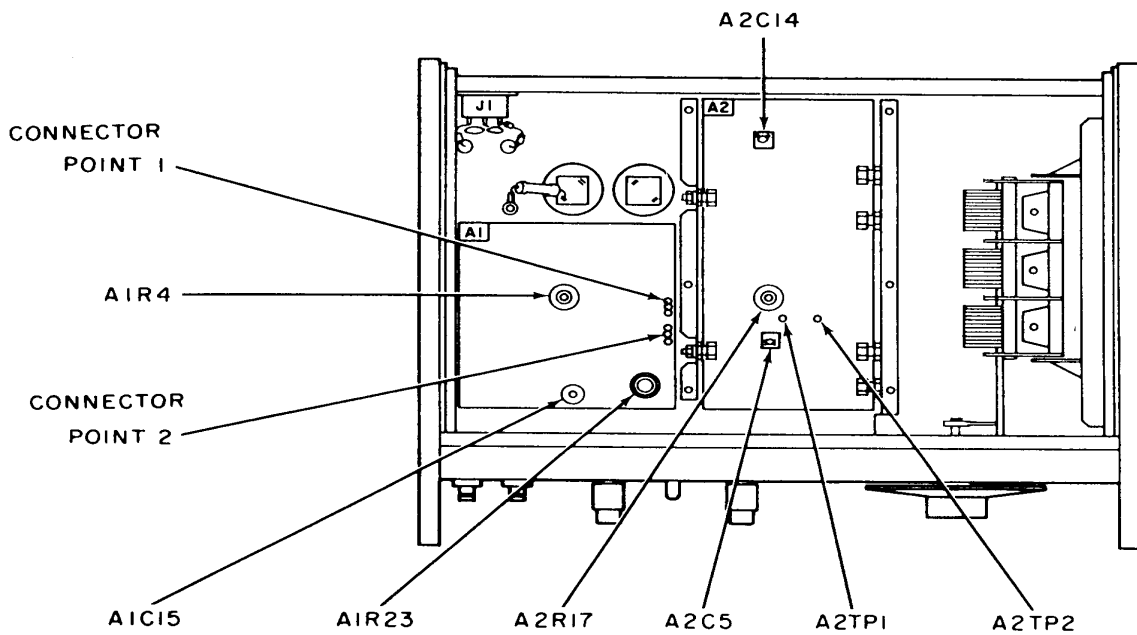
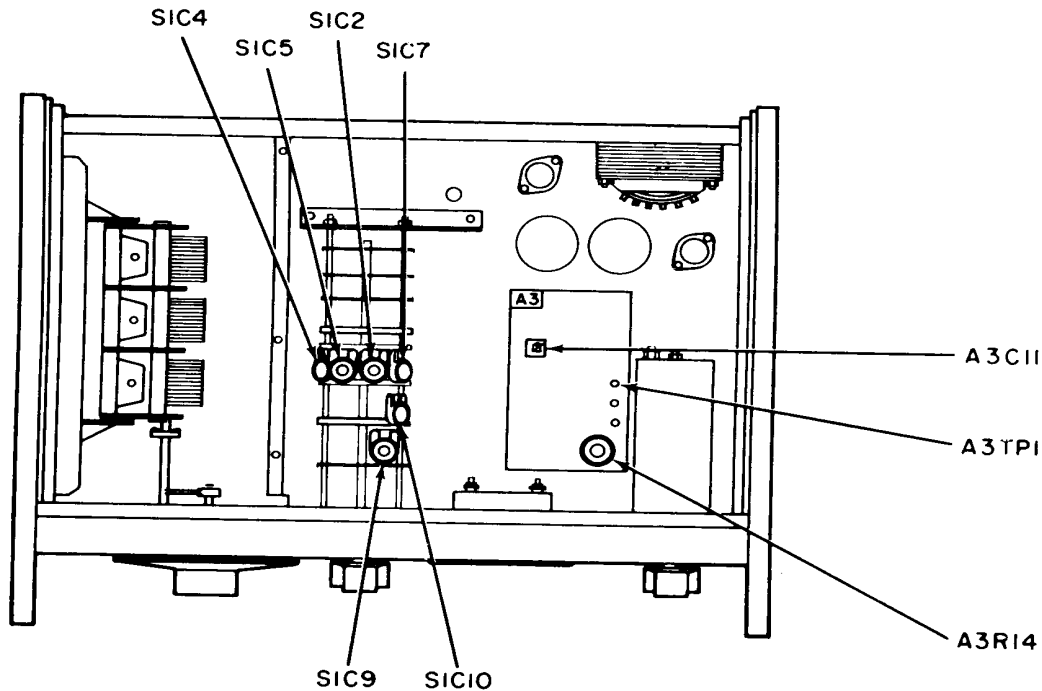

Figure 1. Test instrument - bottom view.
Figure 2. Test instrument - top view.
- (1) Remove TI bottom cover and oscillator shield.
- (2) Connect multimeter with a 1 k Ω resistor in series between A2TP1 (fig. 1) and chassis ground.
- (3) Connect audio analyzer to TI using a 50 Ω feed-through termination.
- (4) Position controls as listed in (fig. 2) below.
- (5) Adjust **AMPLITUDE** controls for a 3.0 V indication on TI meter. Multimeter will indicate between 100 and 120 mV ac.
- (6) Adjust A2R17 (fig. 1) for minimum distortion (R).
- (7) Connect multimeter between A2TP2 (fig. 1) and chassis ground.
- (8) Connect frequency counter to TI, using a 50 Ω feed-through termination.
- (9) Turn **FREQUENCY** dial to 10.
- (10) Adjust S1C2 and S1C7 (fig. 2) alternately until multimeter indicates -350 mV and frequency counter indicates 10.0 kHz (R).
(17) Adjust S1C5 (fig. 2) and A2C5 (fig. 1) alternately until frequency counter indicates 10.0 MHz and multimeter indicates -370 mV (R).
If TI will not oscillate, adjust S1C10 (fig. 2) slightly.
(20) Turn **FREQUENCY** dial to 5.
(21) Adjust S1C10 (fig. 2) until frequency counter indicates 5.0 MHz and multimeter indicates -310 MHz (R).
(22) Repeat (16) through (21) above until no further adjustment is required.
(23) Set **FREQUENCY RANGE** switch to **X100K** and turn **FREQUENCY** dial to **10**.
(24) Adjust S1C4 and S1C9 (fig. 2) until frequency counter indicates 1.00 MHz and multimeter indicates -275 mV (R).
- (1) Adjust **AMPLITUDE** controls for a 3.00 V indication on multimeter.
- (2) Adjust A1R23 (fig. 1) for a 3 V indication on TI meter (R).
- (3) Adjust **OUTPUT AMPLITUDE** and **VERNIER** controls for a 3.075 V indication on multimeter.
- (4) Adjust A3R14 (fig. 2) for a +2.5 indication on TI meter percent scale (R).
- (1) Adjust A2C14 (fig. 1) fm best overall flatness between 1 and 10 MHz.
- (2) Set **FREQUENCY RANGE** switch to **X1M** and turn **FREQUENCY** dial to **10**.
- (3) Adjust **AMPLITUDE** controls for multimeter indication recorded in **a** (5) above.
- (4) Adjust A1C15 (fig. 1) for a 2.40 V indication on TI meter (R).